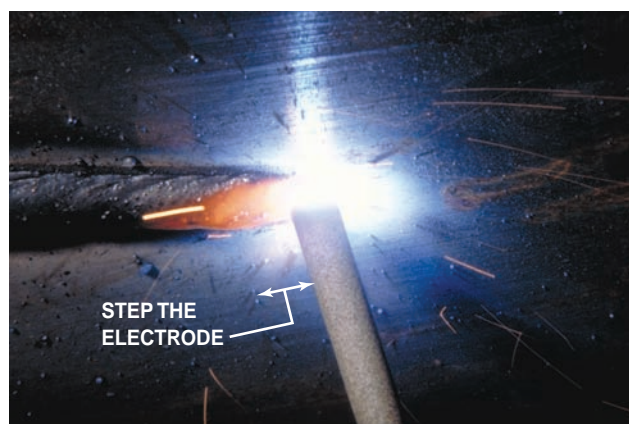

FIGURE 9-57 Step the electrode. Courtesy of Larry Jeffus.
- Use the stepped pattern and move the electrode forward slightly when the molten weld pool grows to the correct size, **Figure 9-57**.